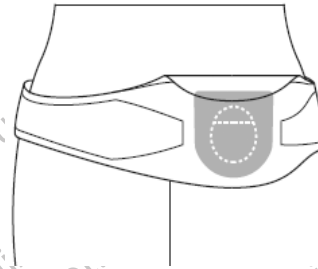

Figure 6. Position the Charger Over the Stimulator
2. Position the Charger over the Stimulator (Figure 6).